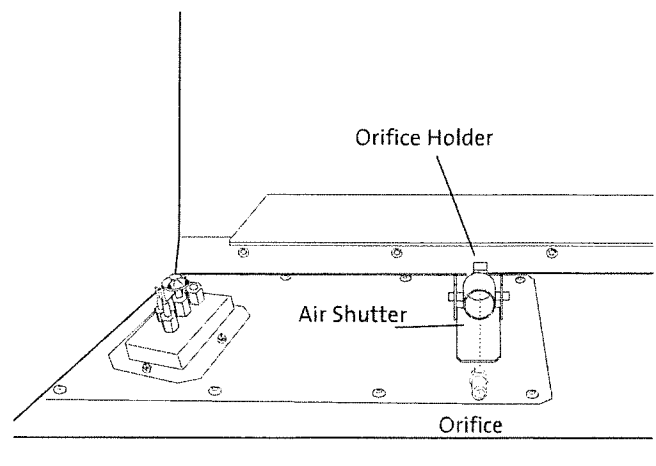

Figure 30. Burner orifice location.
2. Use a 1/2" or 13 mm deep socket to remove the original orifice and replace it with the one provided in the kit appropriate for gas type. See fig. 30.